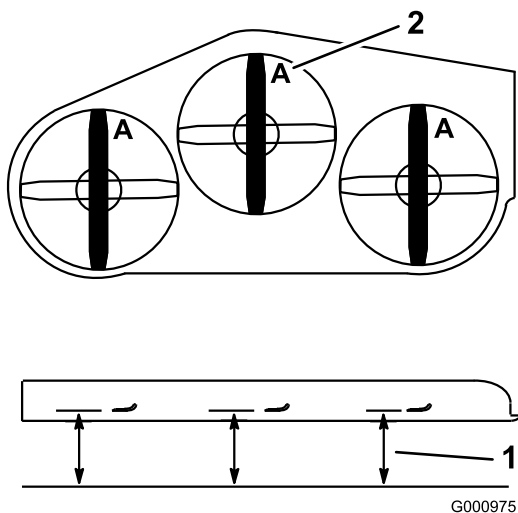

Figure 74
2. Measure from a level surface to the cutting edge, position A, of the blades (Figure 74).